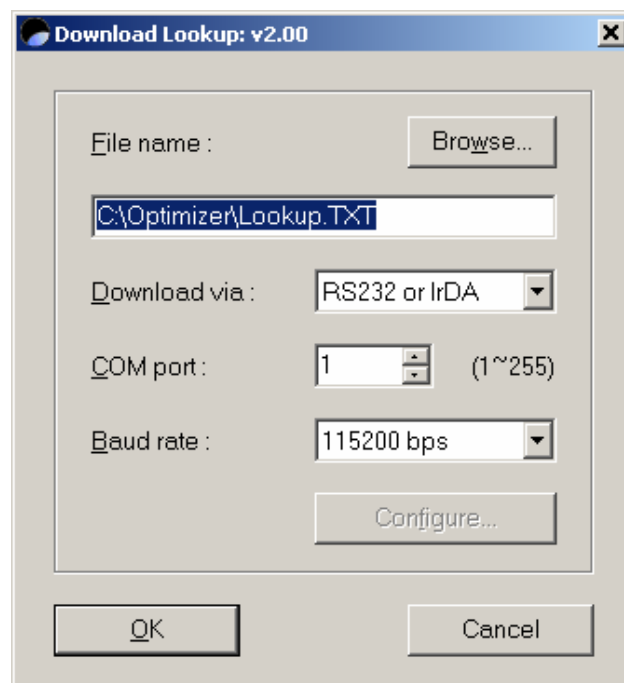

Figure 4: Lookup Download Window
11. After download is complete, the Optimizer window will come back up on the screen. The lookup file must now be downloaded to the unit. Choose the "Tools" menu item, then "Communication", and finally "Download Lookup table". The lookup download window will open (see **Figure 4**).